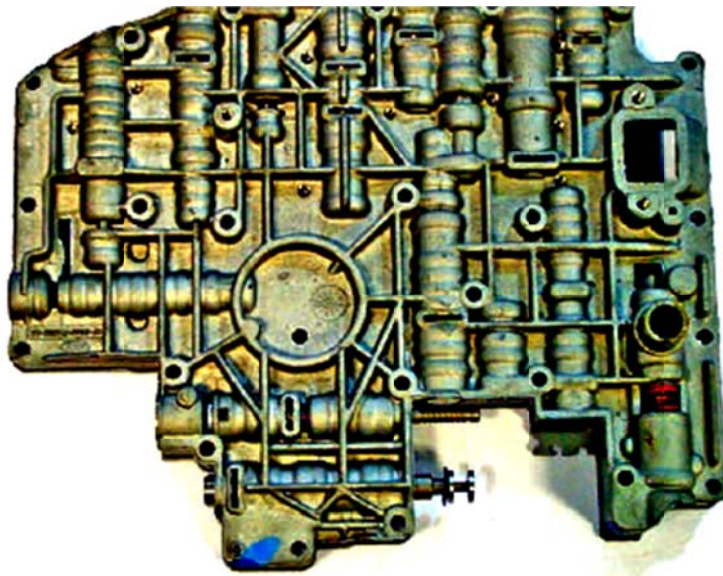

Figure 5. A typical valve body.
- (b) Figure 5 shows the valve body assembly. Explain the valve body and its purposes.